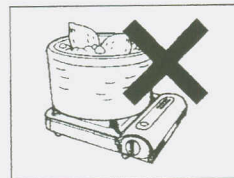

Fig.15
7. Do not use sweet potato roasting pan filled with stone, sands, ceramic. (Fig 15)